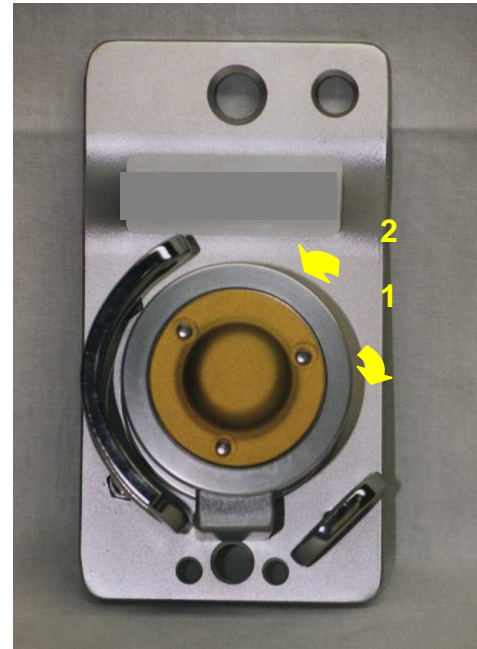

Abbildung 5
- ⇒ The rope roller locks in the clockwise direction (1) (return motion lock active) Abb. 5.
- ⇒ The rope roller turns freely in the counter-clockwise direction (2) (return motion lock inactive) Abb. 5.